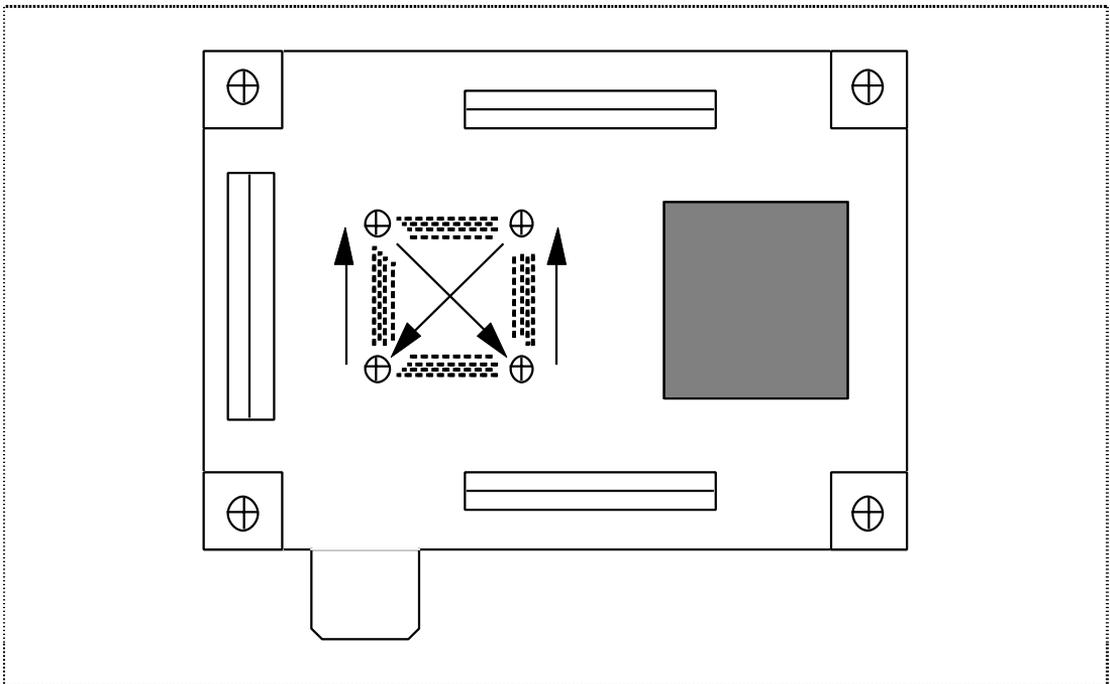

Figure 3.3 Screw-Tightening Sequence (Top View of the PWB30H)
4. Attach the HS7420PWB30H to the IC socket on the user system with four screws (M2 x 10 mm). Gradually tighten the screws alternately in a figure-8 pattern (see figure 3.3). Never forcibly tighten only one screw. Otherwise, a contact failure will occur or performance will be degraded. When tightening the screws, hold the IC socket so that it does not twist.